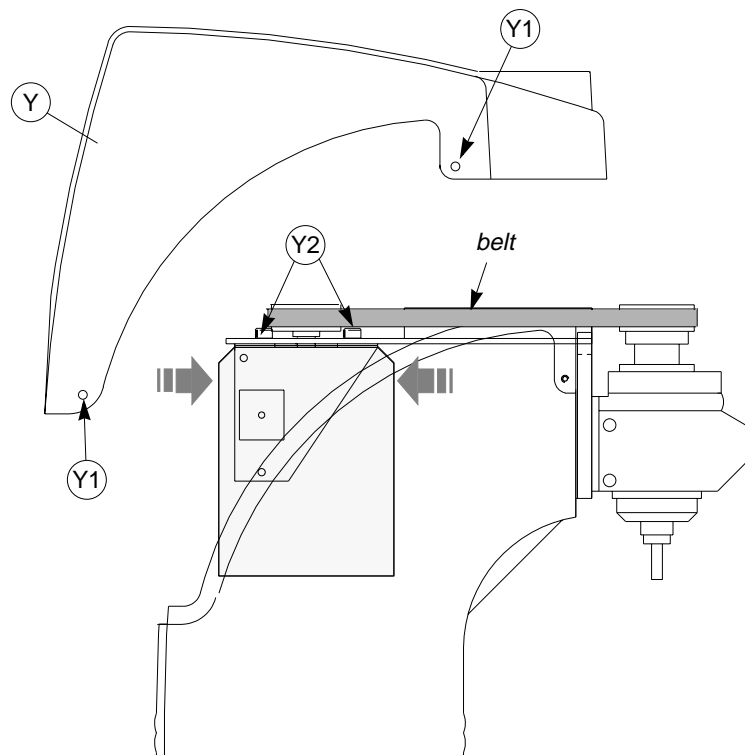

Fig. 24
- 2) loosen the four screws (Y1) and remove the upper casing (Y) (fig. 24).